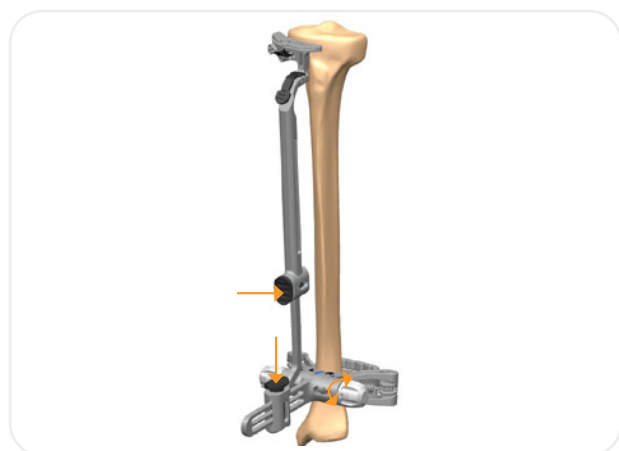

Figure 14
1. Open the arms of the ankle clamp and attach alignment jig to the tibia. Adjust height and distance from tibia by depressing the buttons on the Macro Alignment Tube and EM Posterior Slope guide, respectively (**Figure 14**).